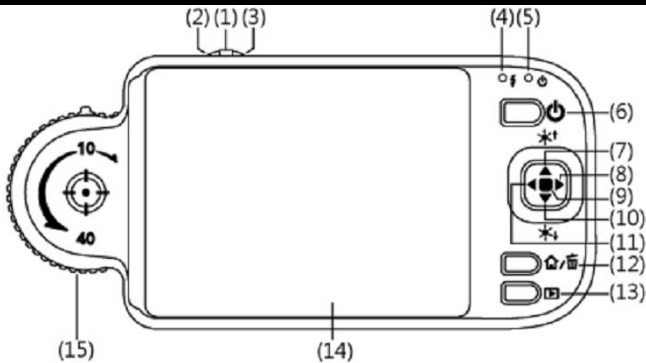

Figure 1
Preview mode ((13) in Figure 1 on page 4) used to preview all the pictures that have been taken. Using the silver ring to scroll through photos. Using zoom buttons to zoom in on pictures. Once the photo is enlarged, use the silver ring to move the photo up, down, left or right. Press the enter button to return to original window status.